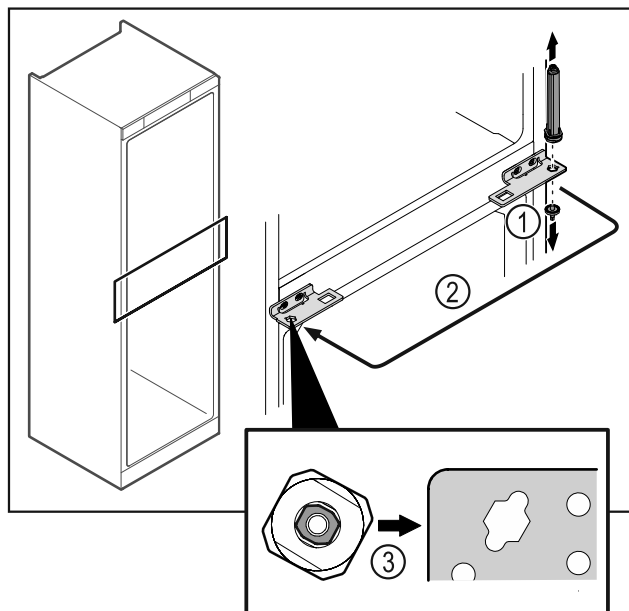

Fig. 44
- Unscrew the hinge pin Fig. 44 (1).
- Move the door closing system Fig. 44 (2).
- When inserting, make sure that the door closing system Fig. 44 (3) is correctly aligned.